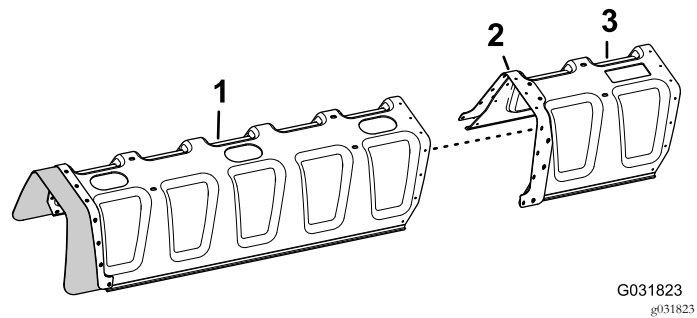

Figure 180
- Align the holes in the reinforcement plate (double row) on the cover extension with the holes in the end of the 11-nozzle boom cover (Figure 180).